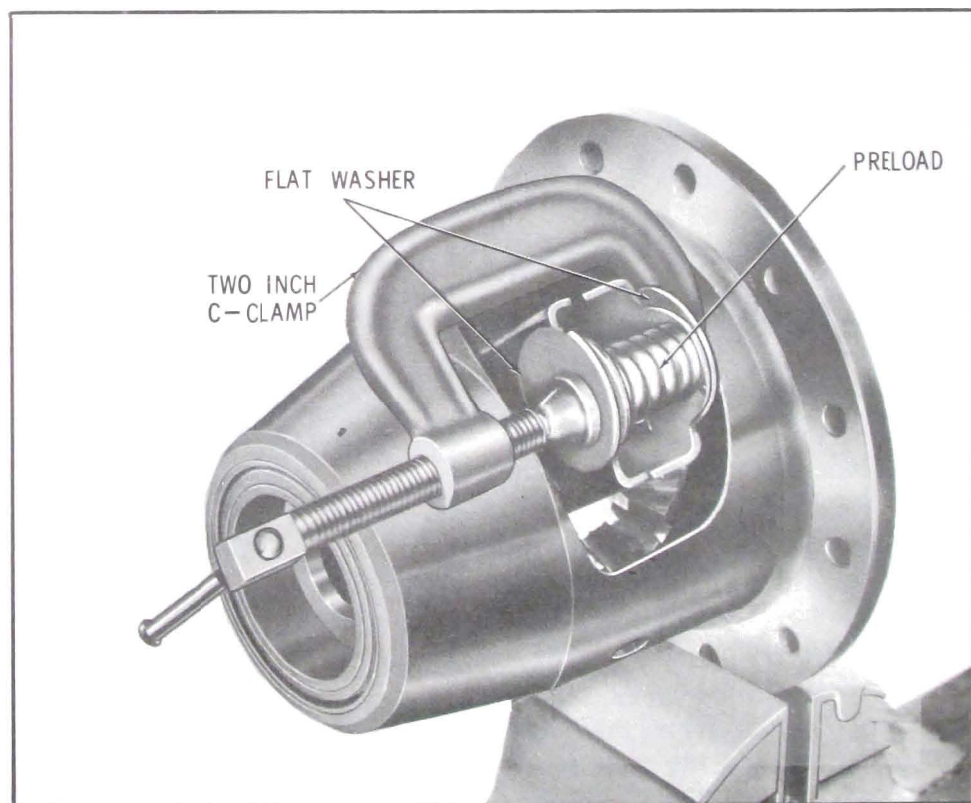

Figure 6-86—Compressing Preload Springs
9. Compress the preload springs as shown in Figure 6-86 and install the preload thrust blocks and springs between the side gears.